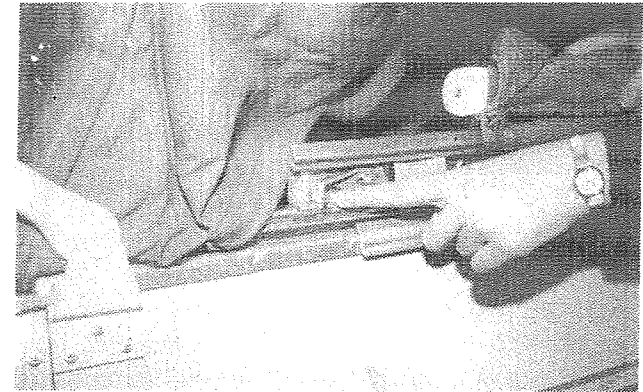

Figure 9
13. Be certain bed locks are engaged with body rail slots at rear of trailer. Pull bed out by straddling the trailer tongue and grasping the handle provided on the front of the bed. Once bed is out, be certain locks have reengaged in the slots located towards the front of the trailer. An audible "click" can be heard when the locks engage. See Figure 9.
9. Raise bed locks (see Figure 9) and push the bed toward the rear of the trailer until the bed contacts the bed stops located on the side rail at the rear of the trailer.